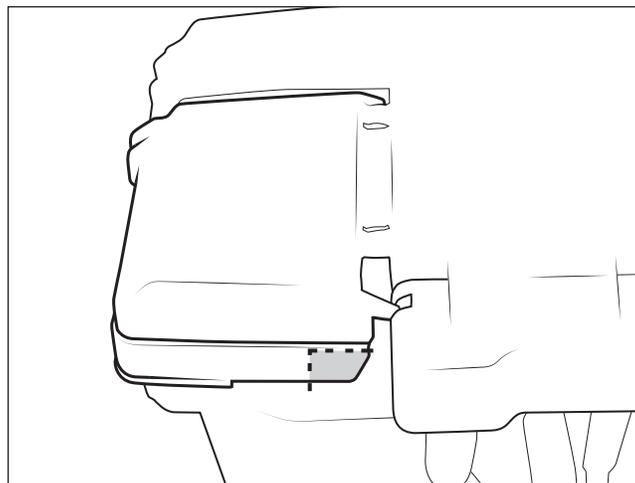

Figure 13
16. Trim the battery box and lid to make space for the positive winch connection (fig. 13).